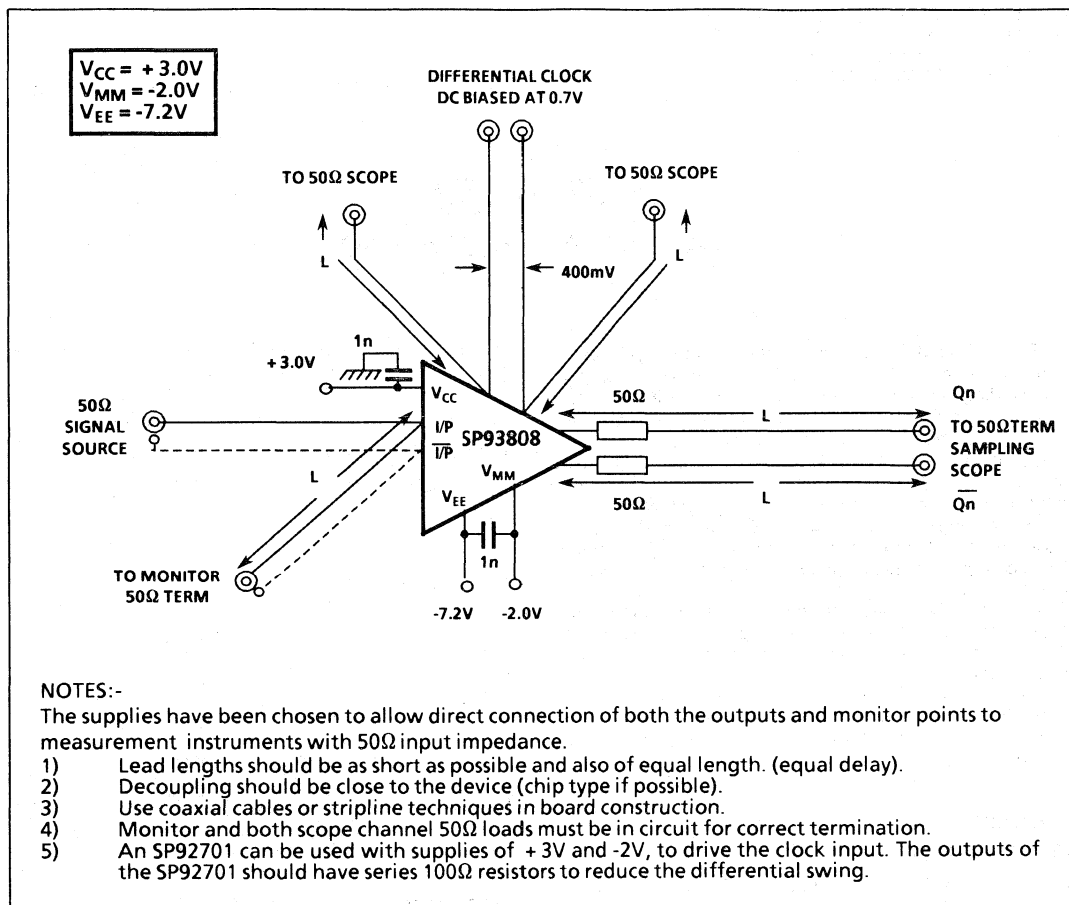

Fig.8 - Comparator Test Circuit (one channel)
1. SET is the input to the glitch capture circuit and is logically the same as the Q output from the comparator, see Fig.8.